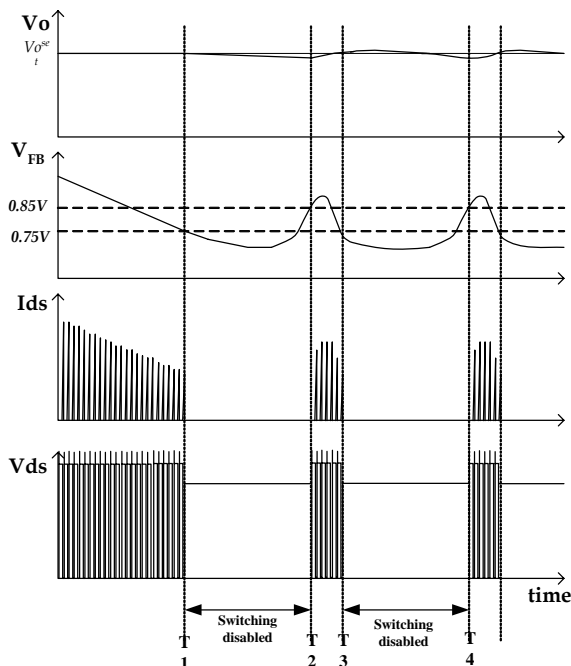

Figure 10. Burst-Mode Operation
6. Burst-Mode Operation: To minimize power dissipation in standby mode, the FPS enters burst-mode operation. As the load decreases, the feedback voltage decreases. As shown in Figure 10, the device automatically enters burst mode when the feedback voltage drops below V_{BURL} (750mV). At this point, switching stops and the output voltages start to drop at a rate dependent on standby current load. This causes the feedback voltage to rise. Once it passes V_{BURH} (850mV), switching resumes. The feedback voltage then falls and the process repeats. Burst-mode operation alternately enables and disables switching of the power SenseFET, thereby reducing switching loss in standby mode.